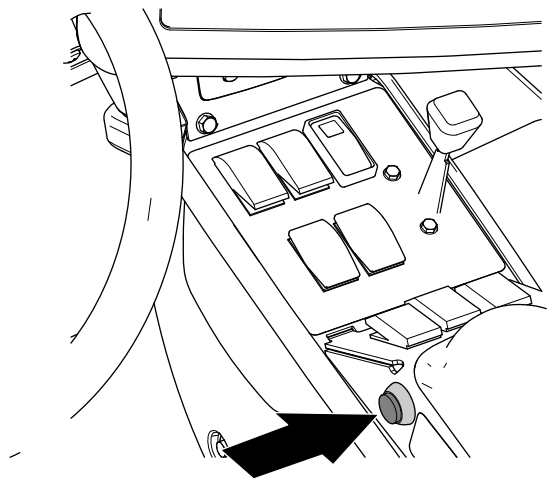

Figure 203
7. On the machine, press the master-section switch to the ON position (Figure 203).